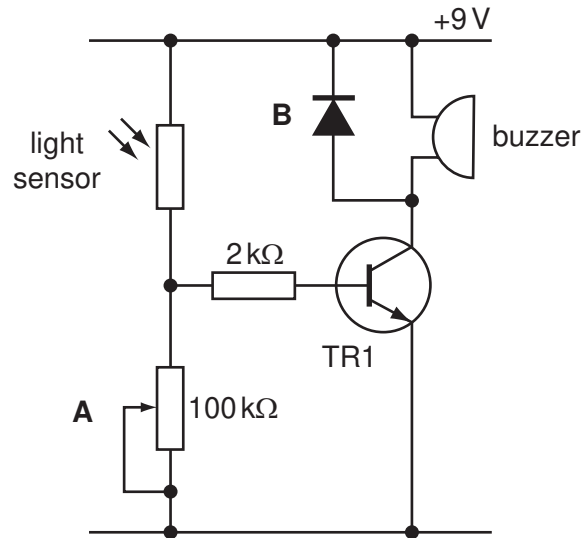

Fig. 6
- 11 Fig. 6 shows a circuit for a light-operated switch that will set off a buzzer when light falls on the sensor.
**(b) (i)** The circuit shown in Fig. 6 could be adapted to sense different environmental changes by using different sensors.
- (c) The circuit shown in Fig. 6 could be modified to make it more sensitive to smaller changes in light. Use sketches and notes to show how the circuit could be modified to make it more sensitive.